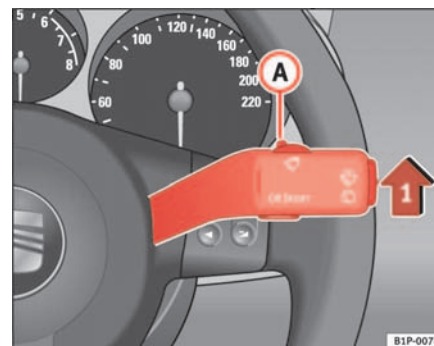

Fig. 65 Windscreen wiper lever
- Move the windscreen wiper lever into position ① ⇒ fig. 65